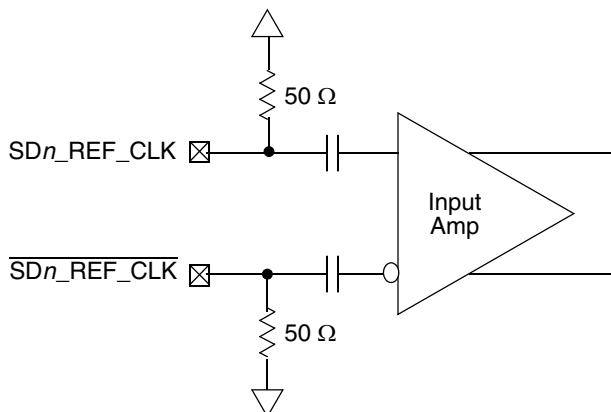

Figure 52. Receiver of SerDes Reference Clocks
Figure 52 shows a receiver reference diagram of the SerDes reference clocks.
- The SDn_REF_CLK and $\overline{\text{SDn_REF_CLK}}$ are internally AC-coupled differential inputs as shown in Figure 52. Each differential clock input (SDn_REF_CLK or $\overline{\text{SDn_REF_CLK}}$) has a 50 Ω termination to SGND_SRDSn (xcorevss) followed by on-chip AC-coupling.